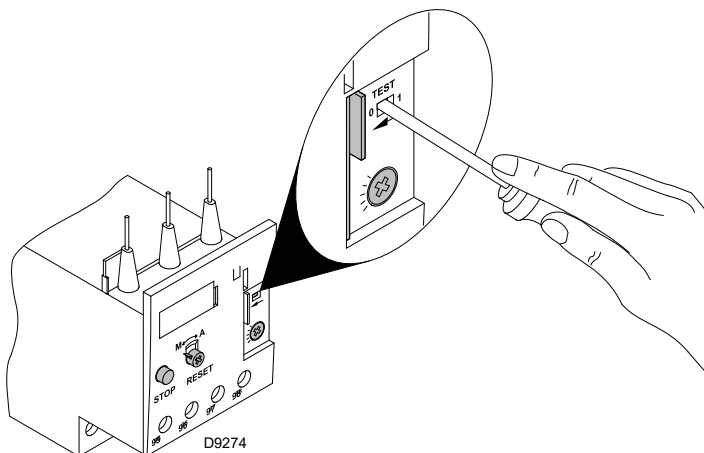

Fig. 28
- To test the overload relay, insert a screwdriver in the window "TEST" (Fig. 28) and move it in the sense of the arrow (towards right).